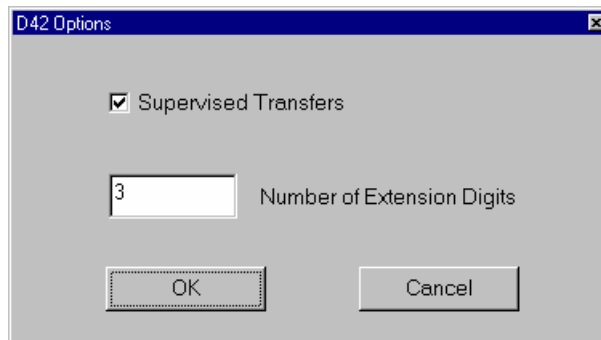

Figure 20. D42 Options Window
4. From the **Options** menu, choose **Properties**. The *D42 Options* window is displayed, as shown in Figure 20.